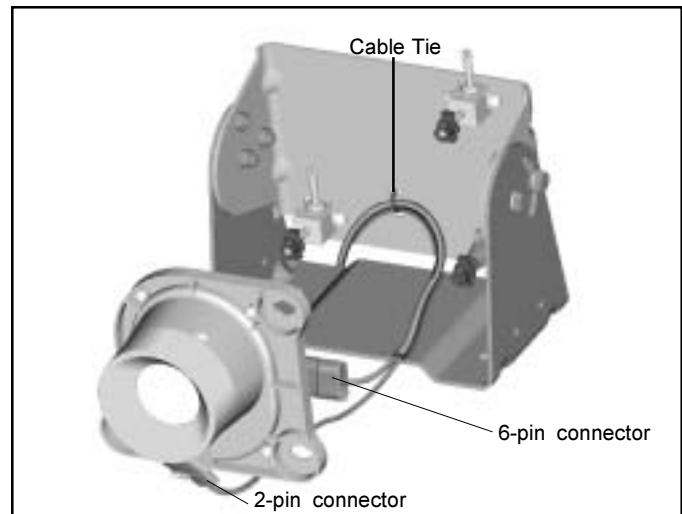

FIGURE 32 - CONNECTING THE CAMERA HARNESSES
19. Plug the 2-pin connector of the IR camera harness into the window heater. Refer to Figure 32.
20. Plug the 6-pin connector of the IR camera harness into the IR camera connection. Refer to Figure 32.